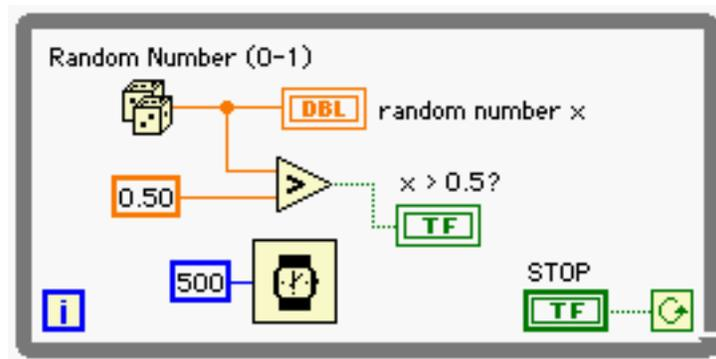

Figure P4.6
- 4.6** Create a VI that turns on a LED when a random number generated by **Functions >> Numeric >> Random Number (0-1)** is greater than 0.5, and save it as **P04_06.vi**. Use **Function >> Time & Dialog >> Wait (ms)** to iterate the **While Loop** at the rate of 500 msec. The complete diagram window is shown in Figure P4.6.